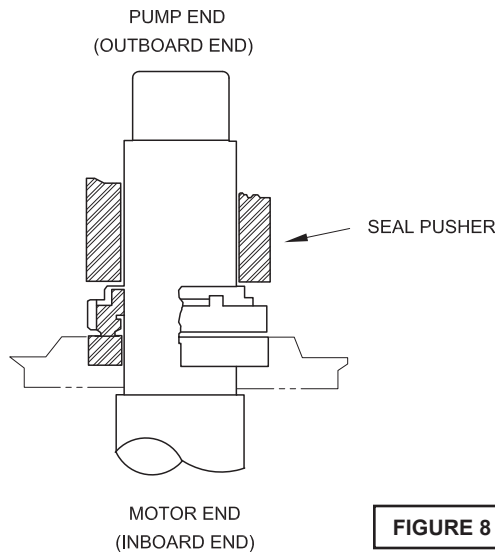

FIGURE 8
Make sure the stationary members are in straight and that the rubber ring is not out of it's groove. Slide a bullet (see parts list-Seal Kit) over motor shaft. Lightly oil (DO NOT use grease) shaft, bullet and inner surface of bellows on rotating member (46D) see Figure 8. With lapped surface facing bearing bracket (21), slide rotating member (46D) over bullet and onto shaft, using seal pusher, until lapped faces of (46D) and (46E) are together (see Figure 8).